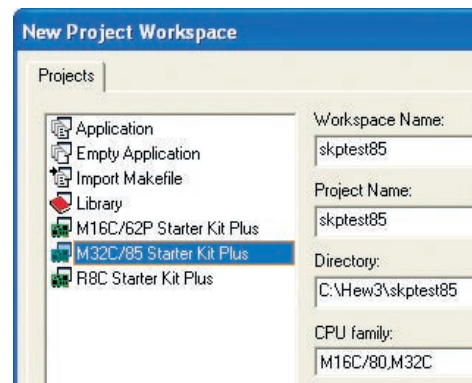

Figure 3. New Project Workspace in HEW
- ii) Select “M32C/85 StarterKit Plus” (Figure 3).